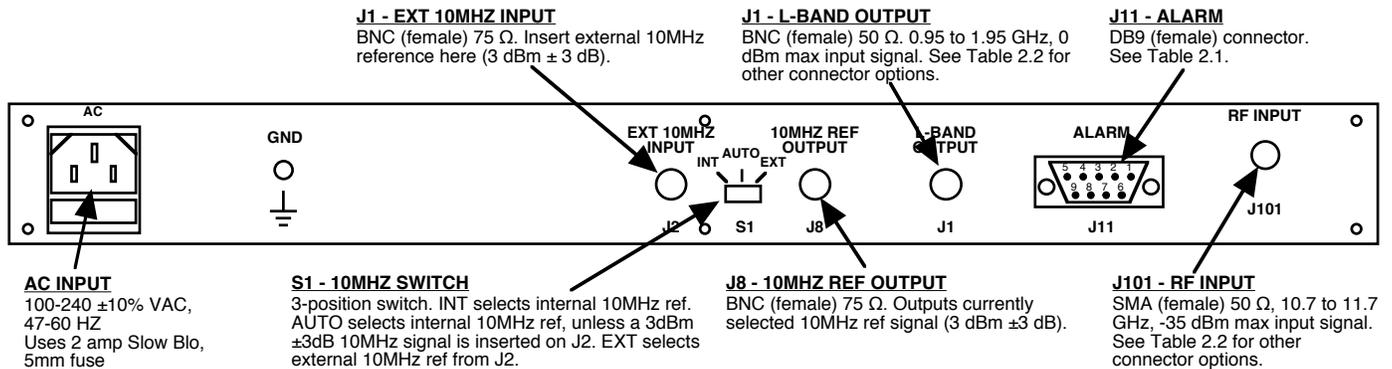

FIGURE 2.1 2116-107 Rear Panel I/O's
Figure 2.1 shows the input and output connectors on the rear panel.
1. Connect a -55 dBm to -35 dBm signal to RF INPUT, J101 (Figure 2.1).
5. Select either INT (for internal 10MHz ref), AUTO (for internal 10MHz ref UNLESS an external 10MHz, 3 dBm signal is connected to J2), or EXT (for external 10MHz, 3 dBm ref that is inserted at J2) using the rear panel 3-way switch, S1 (Figure 2.1).
7. Check that a 10MHz, 3 dBm \pm 3 dB signal is present at the 10MHZ REF OUTPUT (J8) (Figure 2.1).